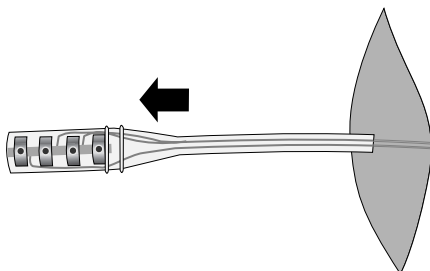

Figure 5. Withdraw percutaneous extension.
7. Hold the setscrew connector and withdraw the percutaneous extension through the incision (Figure 5) and discard.